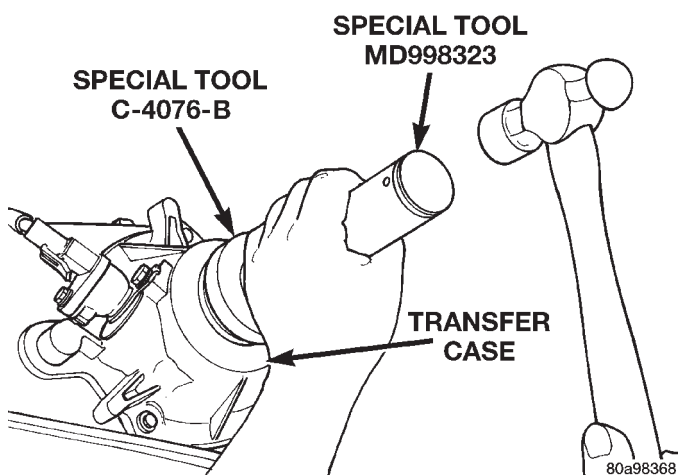

Fig. 78 Rear Seal Installation
(6) Slide Installer C-4076-B onto seal protector with the recessed side of the tool toward the seal. Drive seal into rear bearing retainer with installer C-4076-B and handle MD-998323 (Fig. 78).
(7) Install rear slinger with installer C-4076-A and handle MD-998323 (Fig. 78).